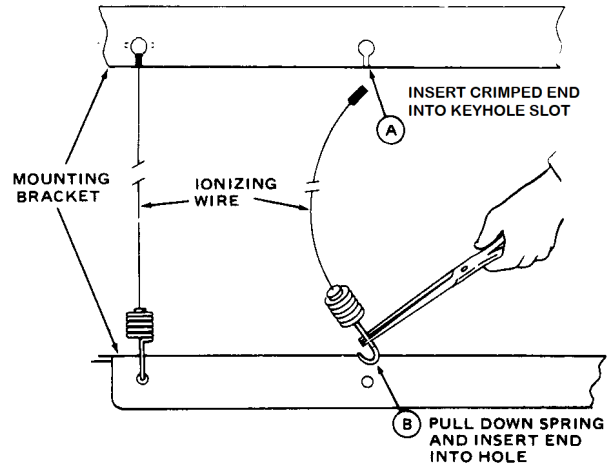

FIGURE 11 – METHOD OF REPLACING THE IONIZING WIRE
1. Remove all of the broken wire from the cell mounting brackets. See Fig. 11.